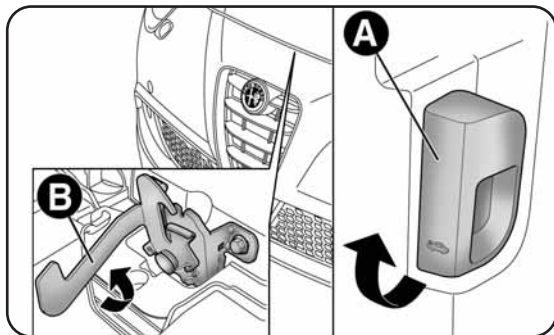

fig. 66
- pull lever A-fig. 66 in the direction indicated by the arrow;